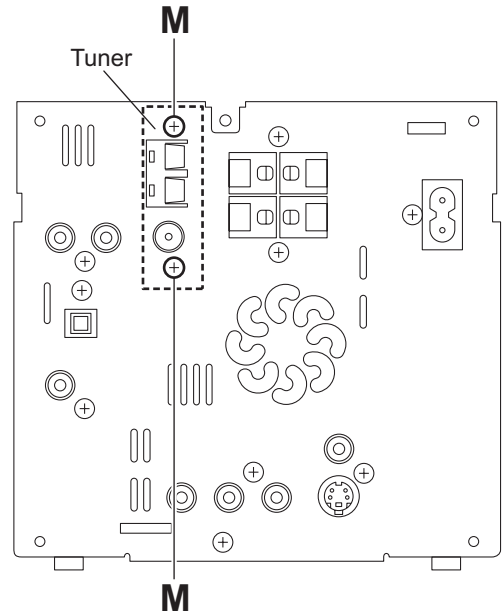

Fig.10
3.1.4 Removing the tuner (See Figs.10 and 11)
- From the back side of the main body, remove the two screws **M** attaching the tuner to the rear panel. (See Fig.10.)